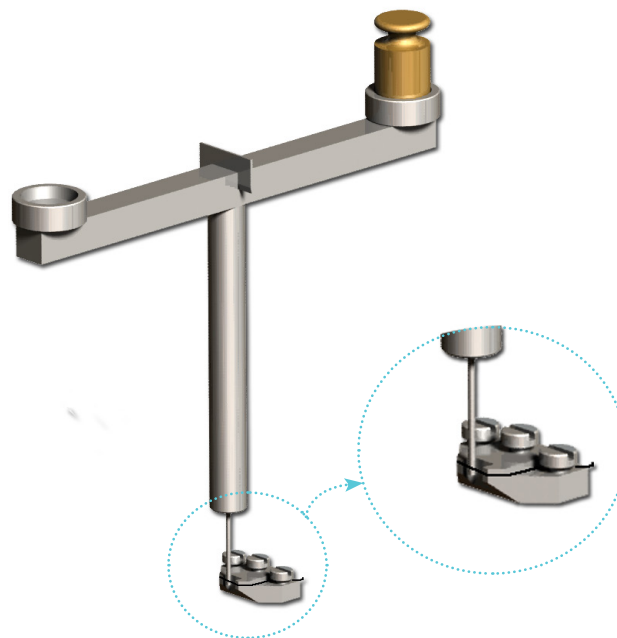

Figure 3.2 Illustration of how to fit the T-balance between the wire and the gap in the jaw support
Step 2 - Involves setting up the Calibration Kit for the actual force calibration. Make sure that the T-balance pin is placed between the wire and the jaw as illustrated in figure 3.2. Carefully move the calibration bridge until the T-balance pin is placed freely between the wire and the jaw, which means it does not touch the wire or the jaw, see figure 3.2.